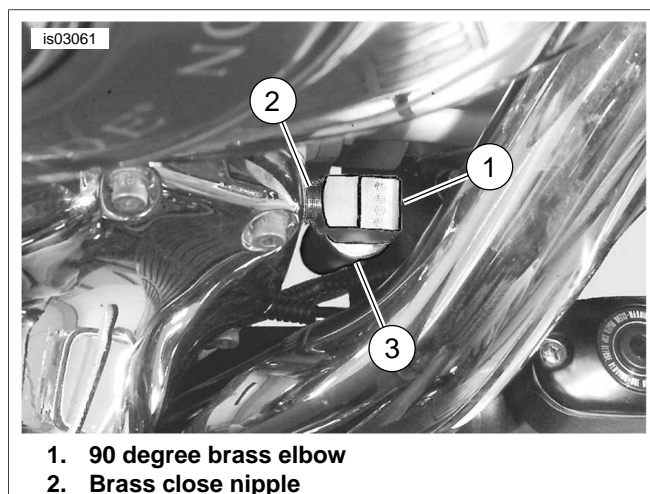

Figure 6. Relocate Oil Pressure Sender
3. See Figure 20 and Figure 6. Obtain the 90 degree brass elbow and brass close nipple from kit. Coat threads on nipple with PIPE SEALANT WITH TEFLON and install to 90° brass elbow. Install elbow into oil pressure sender threads and tighten completely. Aim elbow so open threaded end faces downward and angled slightly toward oil filter base.